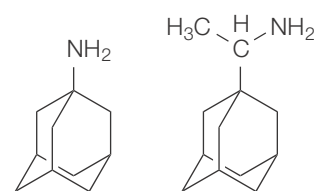

Figure 25.32 Structures of amantadine and rimantadine: uncoating inhibitors
- Preventing the genetic material from being injected through the cell membrane (Figure 25.32); viruses have to interact and bind with specific receptors (proteins or glycoproteins) on the cell membrane of a cell and release its genetic material.